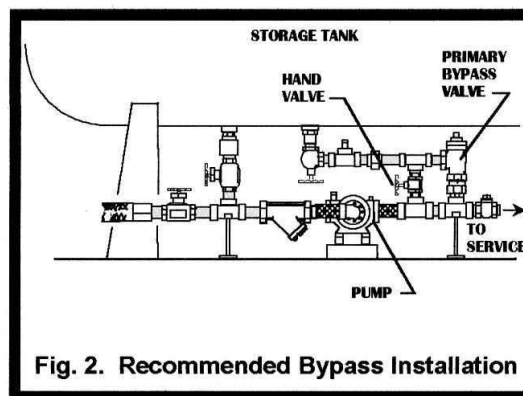

Fig. 2. Recommended Bypass Installation
*Hand-Operated Bypass Valves:* Fig. 2 shows a hand bypass valve piped around the standard spring-actuated external bypass valve. If the pump in a bulk transfer installation ever becomes vapor-locked, the hand bypass valve (which can be just an ordinary approved globe, angle, or ball valve, the same size as the bypass valve) may be opened, so that the vapor will be purged easily from the lines, as it flows back to the storage tank, at essentially "0" PSID.